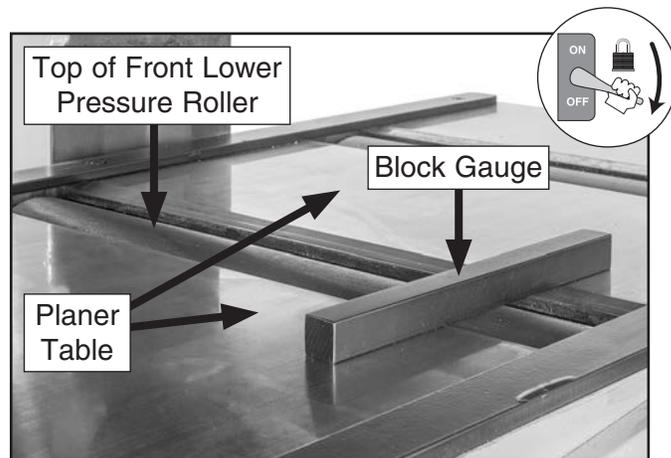

Figure 126. Block gauge placed over front lower pressure roller.
4. Place block gauge on planer table across one side of front lower pressure roller (see **Figure 126**).